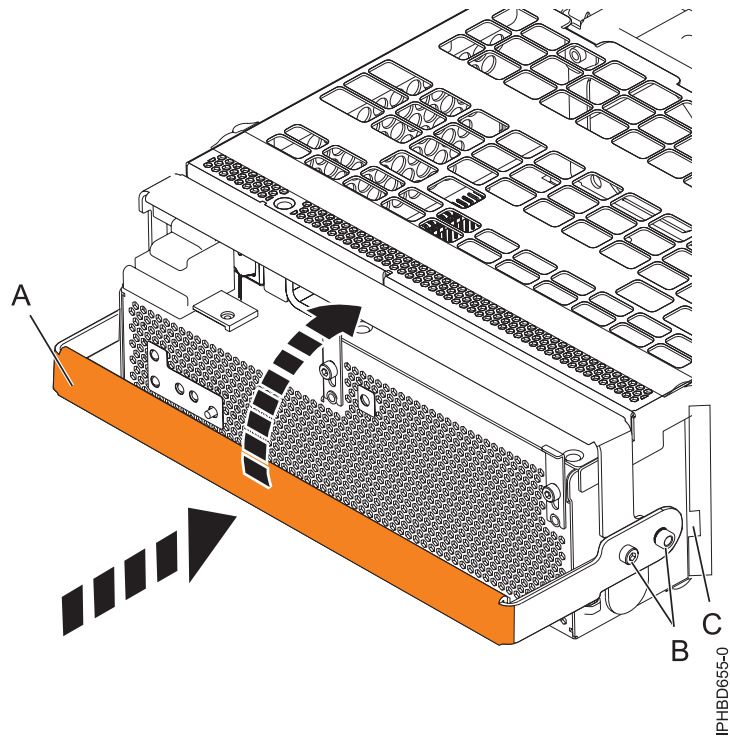

Figure 71. Replacing a power supply
10. To replace the power supply, with the locking handle (A) in the open position, push the power supply into the expansion unit as shown in Figure 71 on page 89.
11. Close the locking handle (A) until the power supply locks into position.